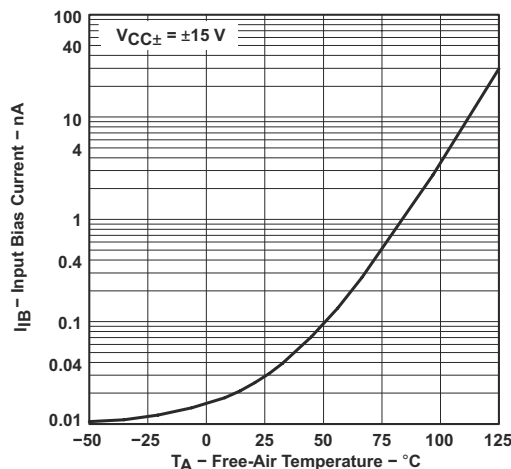

图 6-12. Input Bias Current vs Free-Air Temperature
- (1) All characteristics are measured under open-loop conditions with zero common-mode input voltage unless otherwise specified. Full range for T_A is 0°C to 70°C for TL06xC, TL06xAC, and TL06xBC and -40°C to 85°C for TL06xL.
- (2) Input bias currents of an FET-input operational amplifier are normal junction reverse currents, which are temperature sensitive, as shown in Figure 6-12. Pulse techniques are used to maintain the junction temperature as close to the ambient temperature as possible.
- (3) Specified by design and characterization; not production tested.
- (1) All characteristics are measured under open-loop conditions with zero common-mode input voltage, unless otherwise specified. Full range for T_A is 0°C to 70°C for TL06xC, TL06xAC, and TL06xBC and -40°C to 85°C for TL06xI.
- (3) Assured by design and characterization; not production tested.
(1) This parameter is not production tested.
(2) All characteristics are measured under open-loop conditions, with zero common-mode voltage, unless otherwise specified.
(3) Input bias currents of an FET-input operational amplifier are normal junction reverse currents, which are temperature sensitive, as shown in Figure 6-12. Pulse techniques are used to maintain the junction temperature as close to the ambient temperature as possible.
(4) Specified by design and characterization; not production tested.